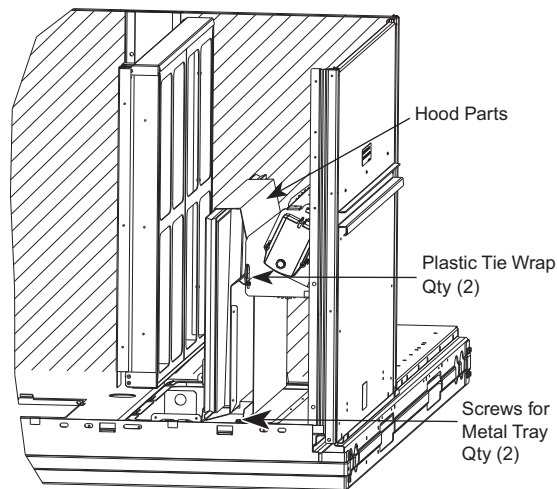

Fig. 11 — Economizer Hood Package Location
3. Locate the (2) screws holding the metal tray to the basepan and remove. Locate and cut the (2) plastic tie-wraps securing the assembly to the damper (see Fig. 11). Be careful to not damage any wiring or cut tie-wraps securing any wiring. The indoor coil access panel will be used as the top of the damper hood. Remove the screws along the sides and bottom of the indoor coil access panel.